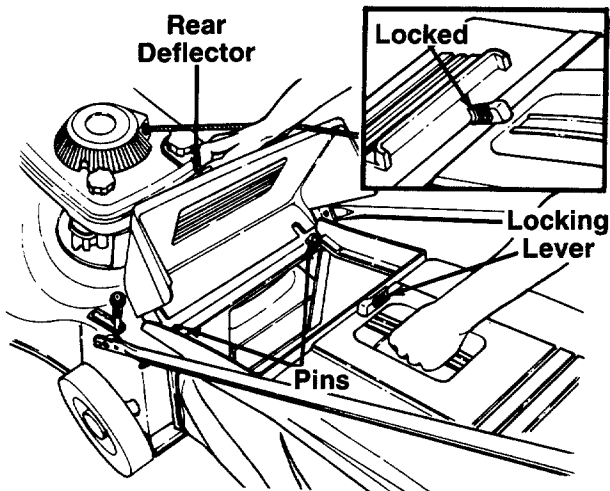

FIGURE 15.
- Lift the rear deflector on the mower. Place the loops on the grass catcher frame over the pins on the back of the mower. See figure 15. Release the rear deflector. Turn the locking lever to the locked position to secure the rear deflector. See figure 15, inset.